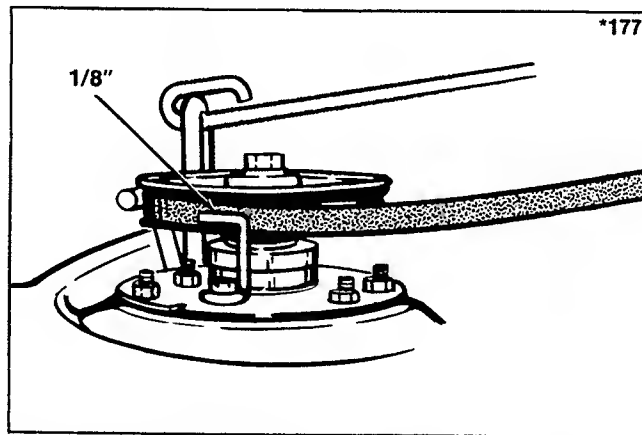

Figure 19. Left Mower Pulley Belt Stop
1. Adjust the belt stop on the left mower pulley so there is 1/8 inch (3 mm) clearance between belt stop and belt when PTO is engaged. (See figure 19).